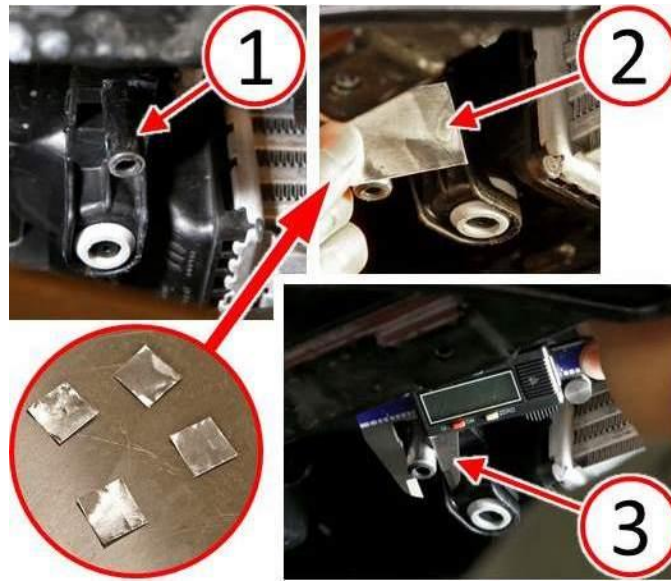

Fig. 7 Wrap Tape Around Anchoring Pin
10. On the left side only, wrap the aluminium foil adhesive tape pieces (2) around the round anchoring pin (1) in order to increase the pin diameter (3) by 1 mm (Fig. 7).